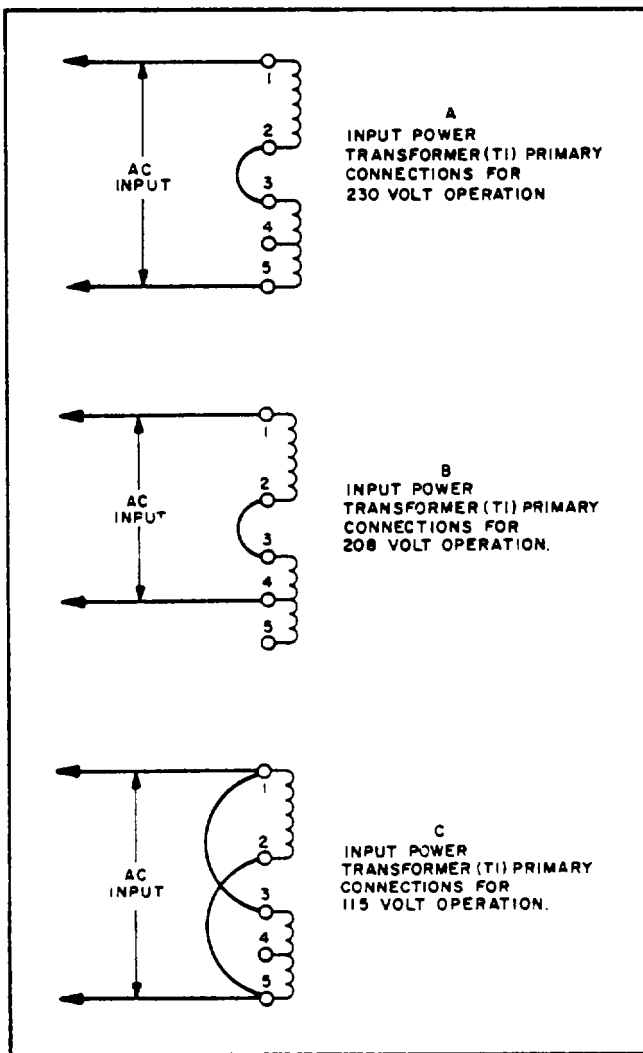

Figure 2-3. Power Transformer Primary Connections for 208Vac and 115Vac Operation . (Model 6259B, 6261B, and 6268B)
d. Unsolder wire connected to terminal 5 of power transformer T1 (see Figure 7-4) and solder it instead to terminal 4 of transformer (see Figure 2-3 B).
f. Unsolder jumper connecting terminals 2 and 3 of power transformer T1 (see Figure 7-4) and solder jumpers between terminals 1 and 3, 2 and 5 (see Figure 2-3 C).